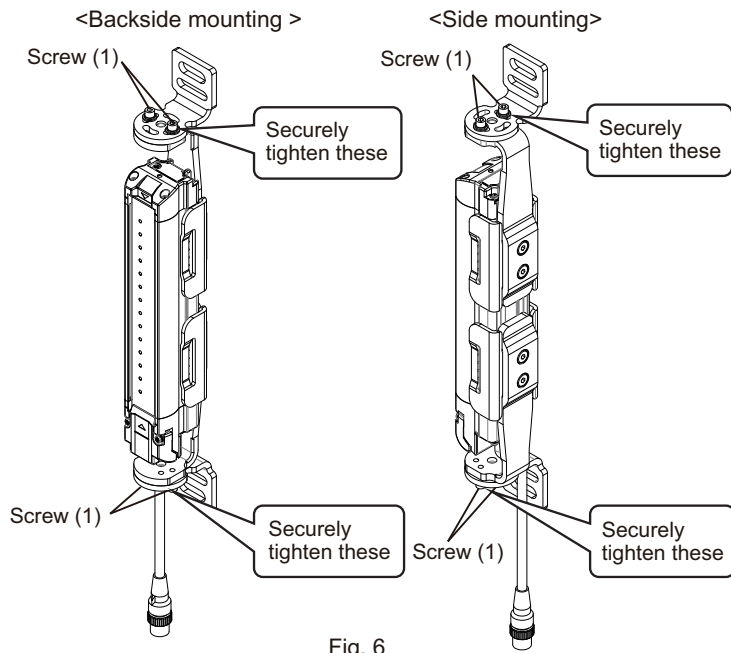

Fig. 6
- Securely tighten the Screw (1) to fix the Top/Bottom Adjustable Bracket to the housing of the F3SG-R. The recommended torque to tighten the Screw (1) is 3.0 N•m. (Fig. 6)